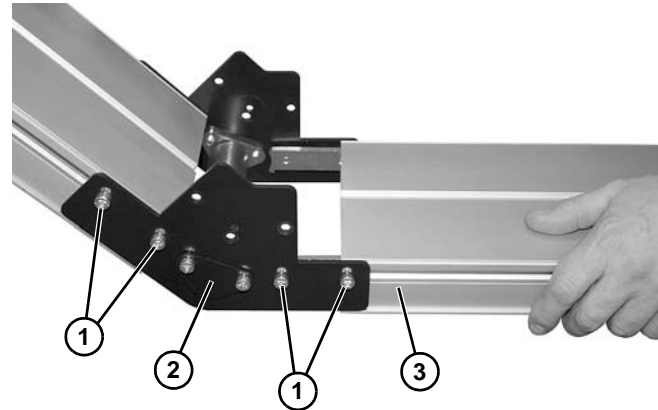

**Figure 11**
4. Join conveyor sections and install frame connector plates (**Figure 11, item 1**) or connector/mount brackets (**Figure 11, item 2**) and screws (**Figure 11, item 3**) on both sides as indicated. Tighten screws to 60 in-lb (7 Nm).
2. Join conveyor sections and install frame connector plates (**Figure 11, item 1**) or connector/mount brackets (**Figure 11, item 2**) and screws (**Figure 11, item 3**) on both sides as indicated. Tighten screws to 60 in-lb (7 Nm).